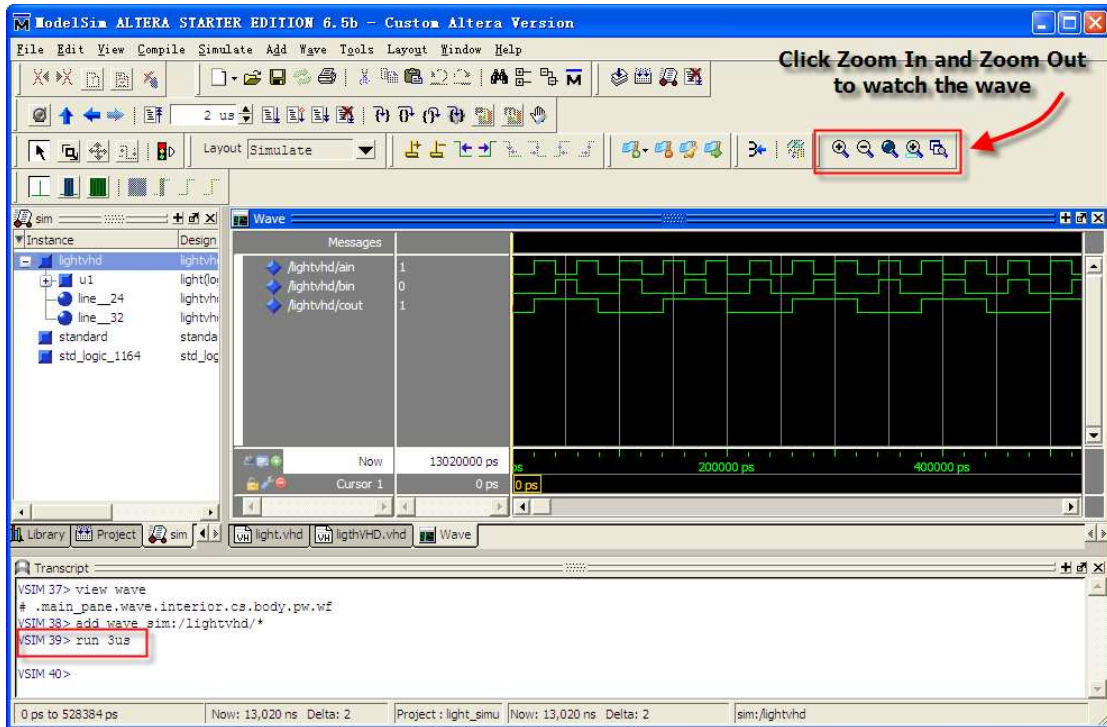

Figure 41.Waves Drawn in Wave Window
a. Enter **run 3us** at the **VSIM>** prompt in the Transcript window (Figure 41).